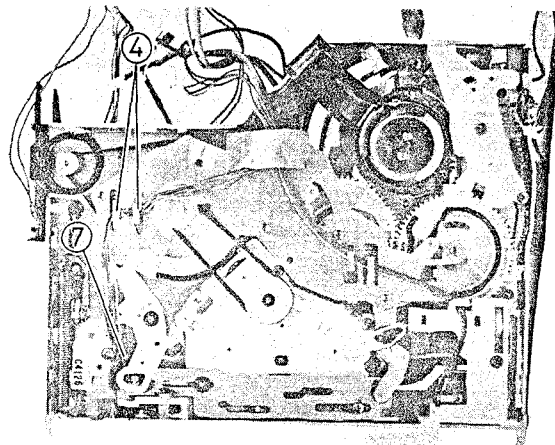

Fig. 2-68 Reel Sensor Removal
4. Remove the wires from the wire holders. (See Fig. 2-68)